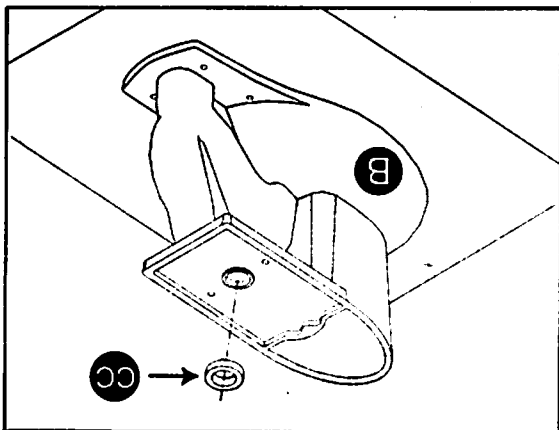

Fig. 2
- Insert new floor bolts (AA) into the toilet flange (not included) with bolt heads down and threaded ends facing up (use plastic retaining washers (BB) to hold bolts in full-length, upright position).
- Floor bolts (AA) should be parallel to wall and 6 inches apart.
2. Install Wax Ring (CC), (Fig. 2)
- Turn toilet bowl (B) upside down onto a towel or cushioned surface. With the rounded (tapered) end of the ring facing the toilet, place the wax ring (CC) around the raised outlet ring of the bowl (B), and press firmly enough so the wax ring (CC) adheres to the bowl (B).